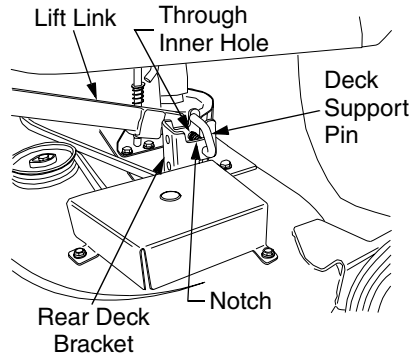

Figure 43
10. Guide the LH and RH lift links into the slots of the rear deck brackets and release the deck support pins by aligning with the inner holes of the deck brackets (See Figure 43). Make certain the handles of the support pins are within the notches at the top of the rear deck brackets.
spring tension will push the pins inward and, if aligned, through the hole in each implement lift link (See Figure 43).